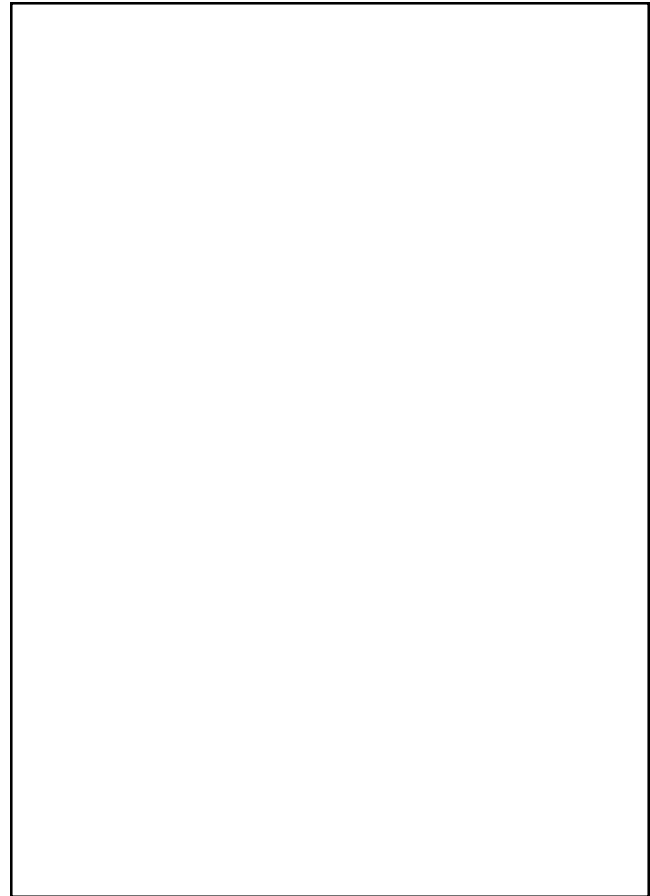

Figure 4-2. Correct lifting instructions.
a. Manual lifting. Manual lifting of material accounts for such occupational injuries as strains, sprains, fractures, and bruises. These injuries are caused, primarily, by improper lifting, carrying too heavy a load, incorrect gripping, failing to observe proper foot or hand clearances, and failing to use or wear protective equipment. There are five steps to safe lifting (see figure 4-2). If there is any doubt as to your ability to lift or lower the load without strain, confer with the foreman directions the lifting.
(1) Inspect objects for slivers, jagged edges, burrs, or slippery surfaces, and wear gloves when needed to protect your hands. Keep hands and gloves free of oil and grease which might interfere with getting a firm grip on the object being lifted.
(2) Workers will not attempt to lift beyond their capacity. Caution will be taken when lifting or pulling in an awkward position. Never carry a load that obstructs the vision. Obtain assistance in lifting heavy objects or use hoists or cranes.